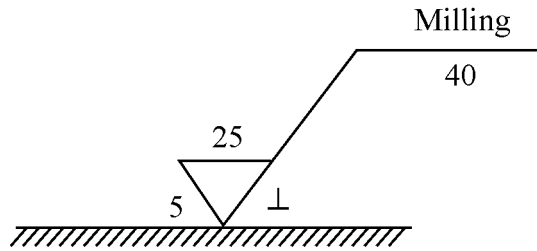

Fig. No. 1
- (f) State the meaning of the symbol shown in Fig. No. 1.